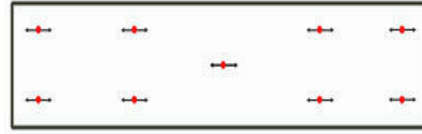

Figure 4 – Hopper Cars
2. Hopper car (3-compartment, through or door type), insert probe vertically at a 10-degree angle in the center or slightly off center in order to miss the cross beam (Fig. 4)